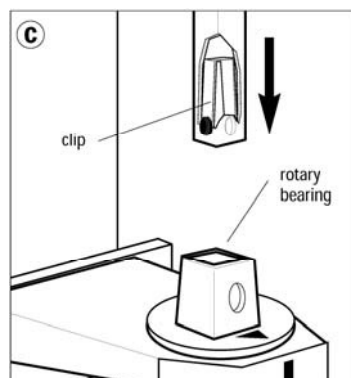

fig. 13
-Snap the lower end tube in the rotary bearing (fig.13) with the use of the clip fitted onto the tube